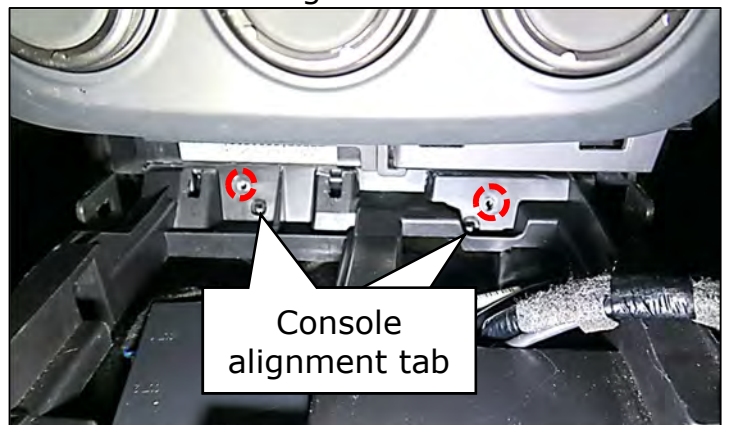

Figure 127
- Align the console alignment tabs with the console alignment holes (just below mounting screw holes) (Figure 127)
- Install the (2) front console screws (Figure 127)